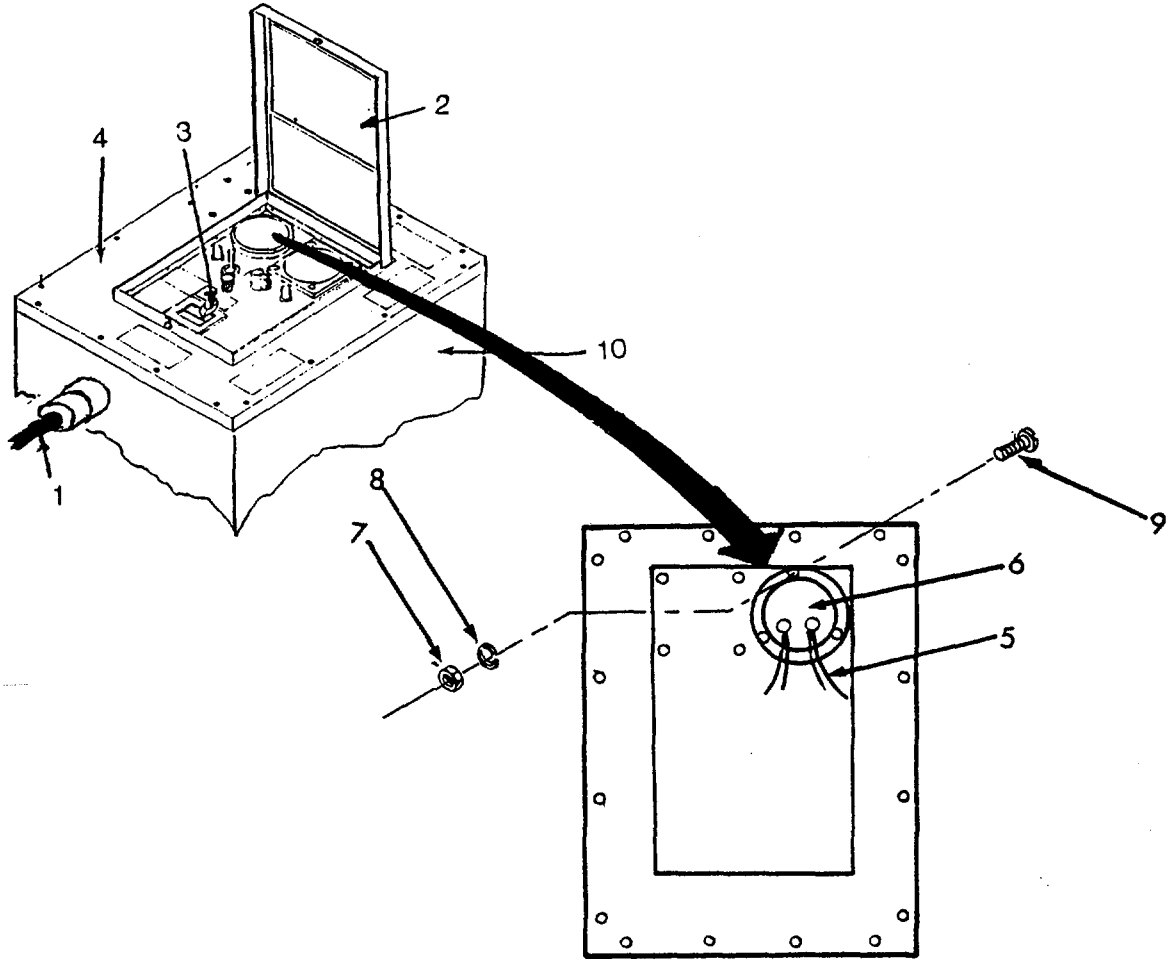

Figure 4-26. Replacing Frequency Meter, Power Distribution Box Assembly
- h. Repair by replacing Frequency Meter, Power Distribution Box Assembly. (See figure 4-26.)
- (1) Request generator operator shut down generator and disconnect main power cable (1).
- (2) Raise control panel (2) and request Module C supervisor place circuit breaker (3) in OFF position.
- (3) Remove control panel assembly (4). (See a. above.)
- (4) Tag and disconnect terminal wires (5) from frequency meter (6).
- (5) Remove nuts (7), lockwashers (8), screws (9), and frequency meter (6).
- (6) Position replacement meter (6) and secure with screws (9), lockwashers (8), and nuts (7).
- (7) Connect terminal wires (5) to frequency meter (6) and remove tags.
- (8) Secure control panel assembly (4) to power distribution box assembly (10). (See a. above.)
- (9) Request generator operator connect main power cable (1), and turn on generator. Test operation, and request Module C supervisor place circuit breaker (3) in ON position.